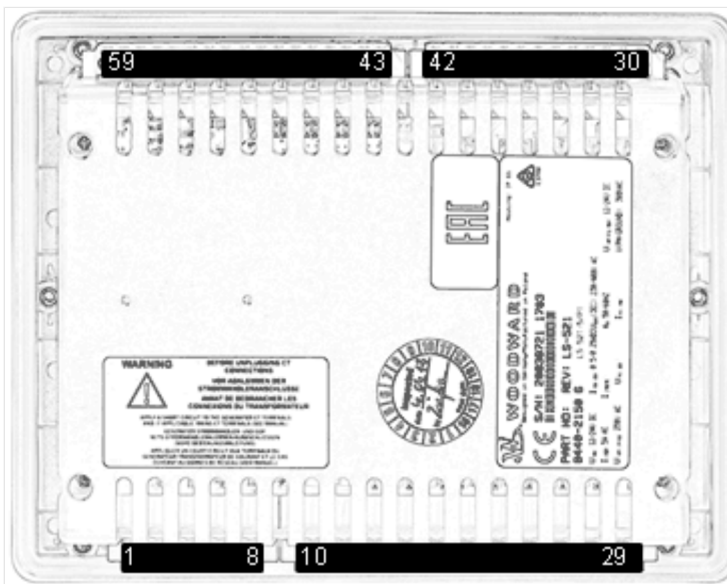

Fig. 19: Plastic housing (rear view)
- Plastic housing - shown in Fig. 19